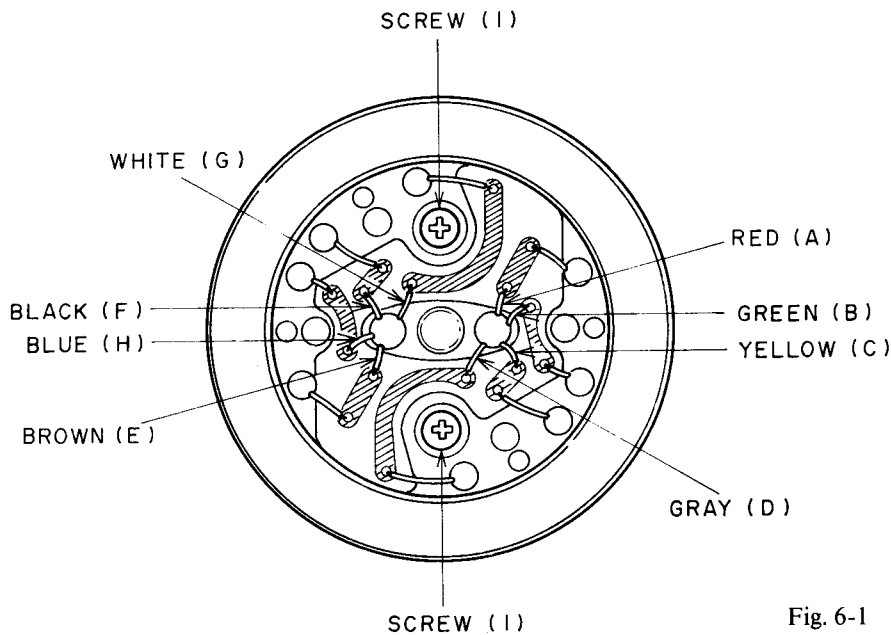

Fig. 6-1
- 2) Unsolder the wires (A), (B), (C), (D), (E), (F), (G) and (H).
- 3) Remove the two screws (I), then pull up the Upper drum assembly.
- 4) Install the new head assembly and solder the wires as shown in Fig. 6-1.
- 5) Fasten two screws (I).